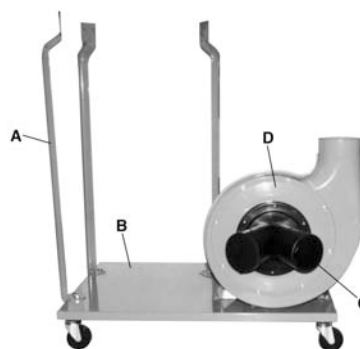

FIGURE 8
4. Attach the three support brackets (A) Fig.8 to the base (B) using 6 hex. bolts and 6 flat washers. Hand tighten only at this point.
5. Attach hose adapter (C) to inlet cover (D) by pressing it into the inlet cover opening.